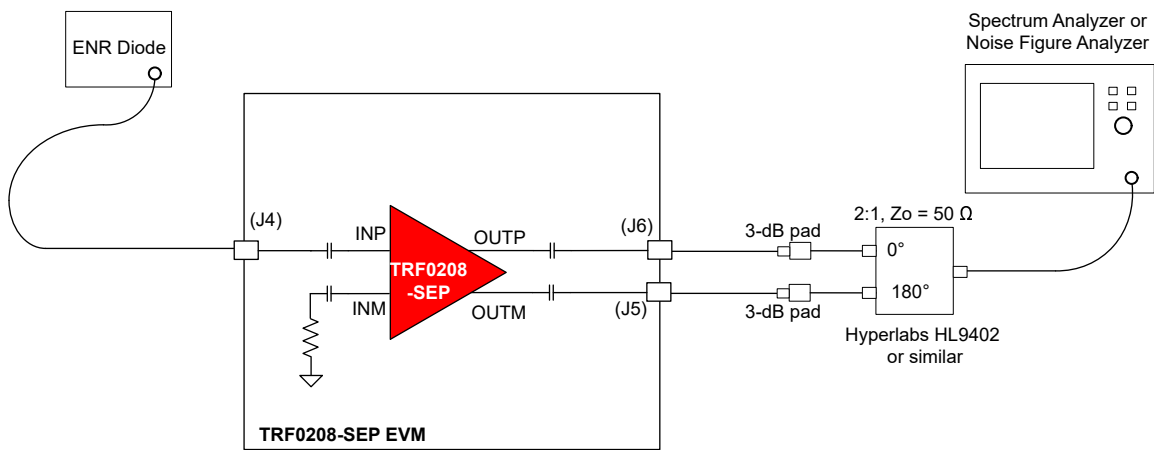

Figure 3-3. Noise Figure Test Setup
1. As Figure 3-3 shows, the traditional Y-factor method can be used for the NF measurement using a Noise Diode and a spectrum analyzer (or a Noise Figure Analyzer).